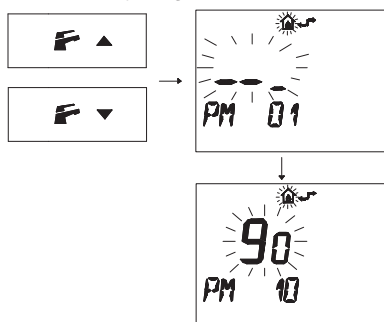

Fig. 7.37
- Press buttons **F** ▼ or **F** ▲ to display the "PM10" program for selecting the ignition frequency (Fig. 7.37).
In Fig. 7.37 a SET programmed at **90** is displayed corresponding to a re-ignition time of about 3 minutes.